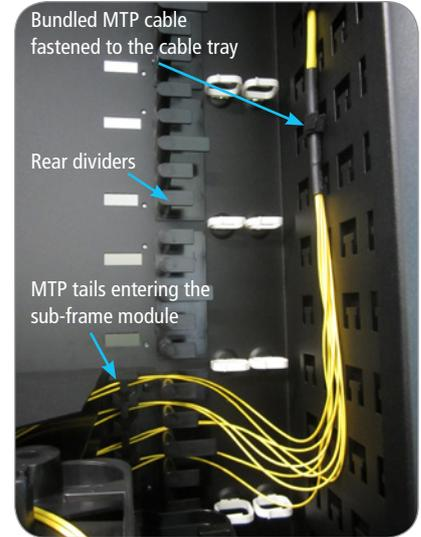

Figure 3.
- Tie the outer jacket of the bundled cables to the cable tray using medium sized cable ties or Velcro straps. See **Figure 3**
- Feed the MTP lead(s) through the rear divider and into the required tray. See **Figure 3**
- Tie the outer jacket of the cable to the cable tray using medium sized cable ties or Velcro straps. Similar to the method shown in **Figure 3**.
- Feed the connector tails through the rear divider and into the tray. Similar to the method shown in Figure 3.